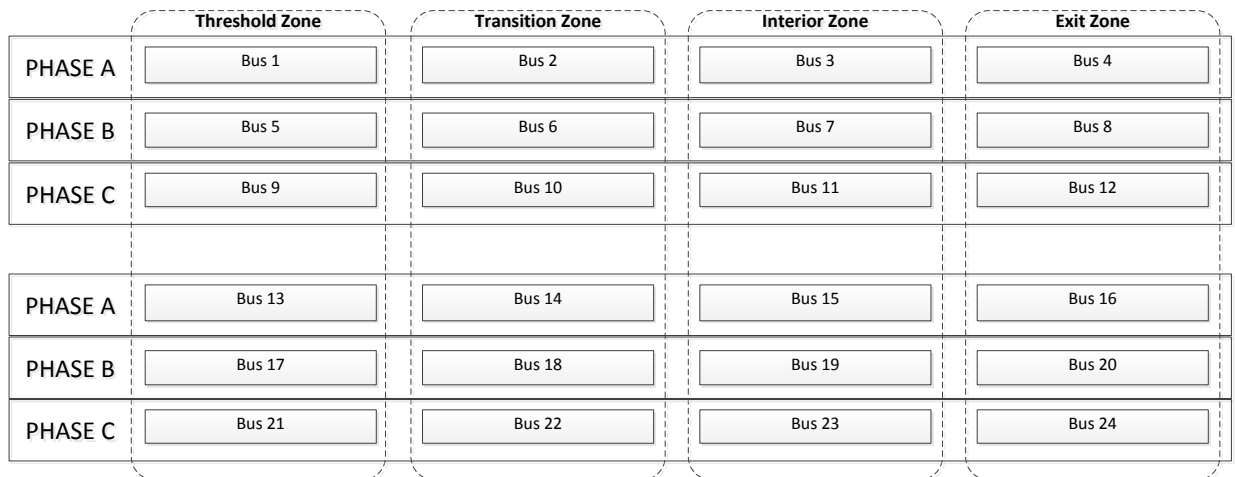

Figure 2: Dual bore, 2 electrical panels
**Figure 2** shows a dual bore (TLACS controls one (1) direction of traffic), with two (2) electrical distribution panels